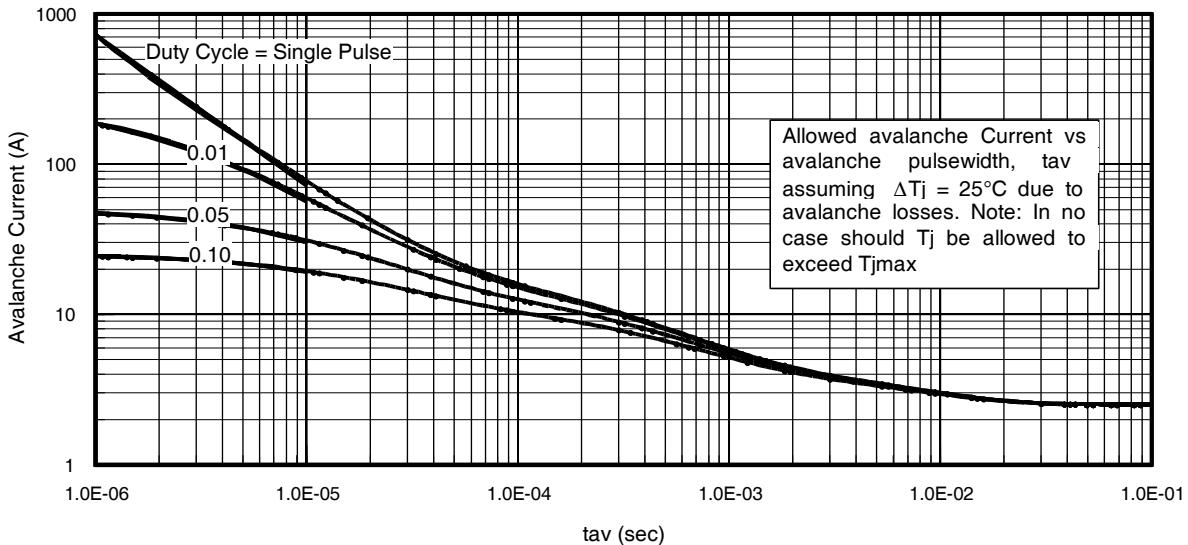

Fig 15. Typical Avalanche Current Vs.Pulsewidth
Notes on Repetitive Avalanche Curves , Figures 15, 16:
7. $\Delta T = \text{Allowable rise in junction temperature, not to exceed } T_{jmax} \text{ (assumed as } 25^\circ\text{C in Figure 15, 16).}$